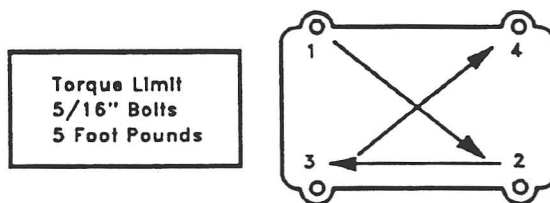

Figure 3.5.1 Bolt Tightening Pattern
3. Close the housing cover and tighten the retaining bolts as illustrated in Figure 3.5.1. The torque limit is 5 foot pounds.